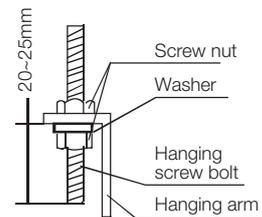

Fig.4-11
- Locate the hanging arm on the hanging screw bolt. (Refer to Fig. 4-11)